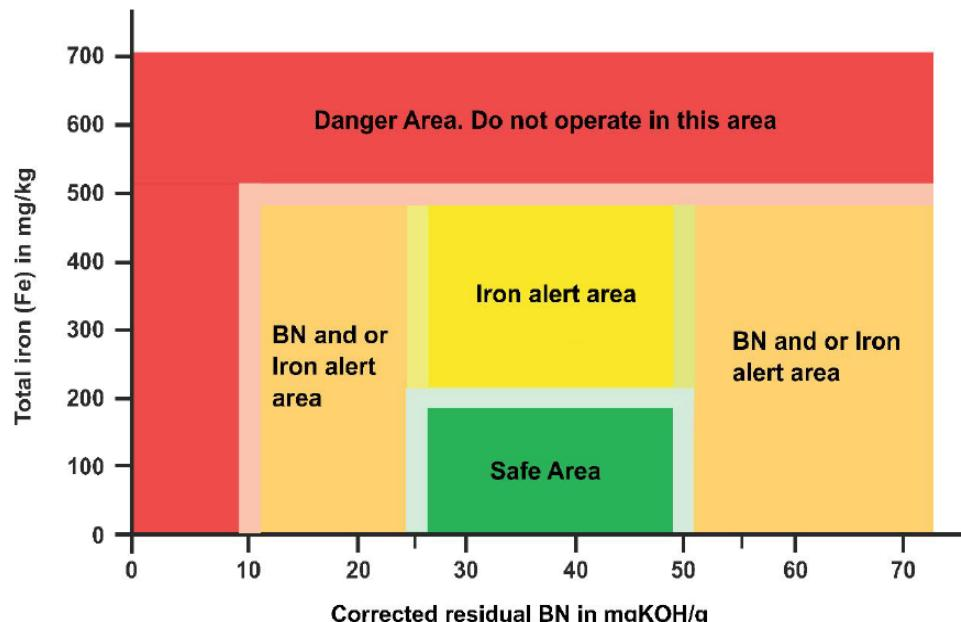

Fig. 2: Piston Underside, Scrape-down or Drip Oil Analysis Interpretation
When the analysis of the piston underside drain oil shows that the engine operates in the safe area shown in Fig. 2, you can adjust the feed rate and alkalinity of the cylinder lubricating oil. The permitted maximum feed rate is 1.2 g/kWh (see 7218-1 Cylinder Lubrication and 7218-3 Feed Rate – Adjustment). If the analysis of the piston underside drain oil shows that an adjustment to a higher feed rate than 1.2 g/kWh is necessary, you must change to a higher BN cylinder lubricating oil.
- You must obey the data given in Fig. 2.
- The safe corrected piston underside residual BN to prevent piston ring and liner corrosion is more than 25 mg KOH/g but less than 50 mg KOH/g (see Fig. 2).
Fig. 2 shows data for fuel oil with a sulphur content in the range of 0.5% m/m to 3.5% m/m and cylinder lubricating oil with a base number between BN 40 to BN 100.
Note: There are smooth transitions between the different areas shown in Fig. 2.
Fig. 2 shows the operation ranges for engines with chrome ceramic piston rings and fully honed cylinder liners installed. It shows the relation between the piston underside total oil iron content and the residual BN. If necessary, the cylinder lubricating oil BN and/or feed rate must be adjusted to prevent excessive corrosion or magnetic iron in the piston underside oil.